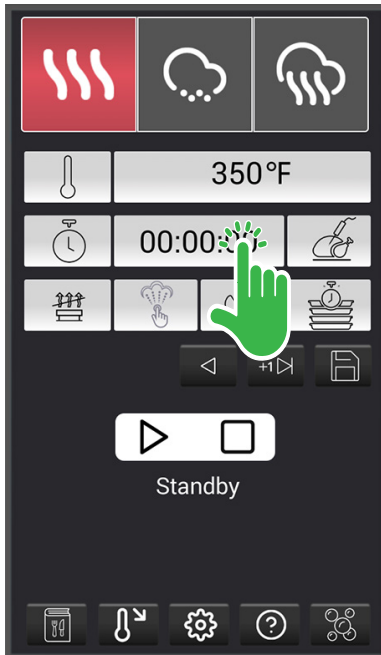
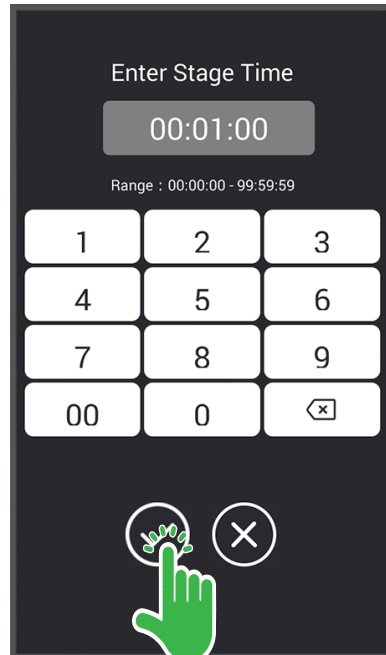

Fig. 12
Fig. 13
3. Touch the Timer Setting Display (Fig. 12) and enter the desired time on the **Timer Adjustment Screen** (Fig. 13). Touch OK.